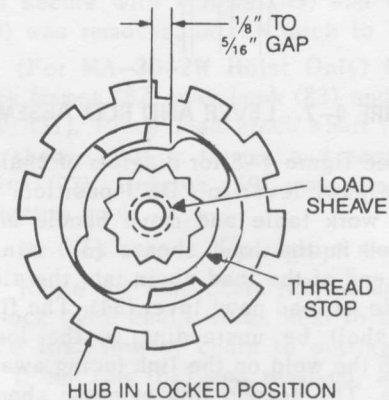
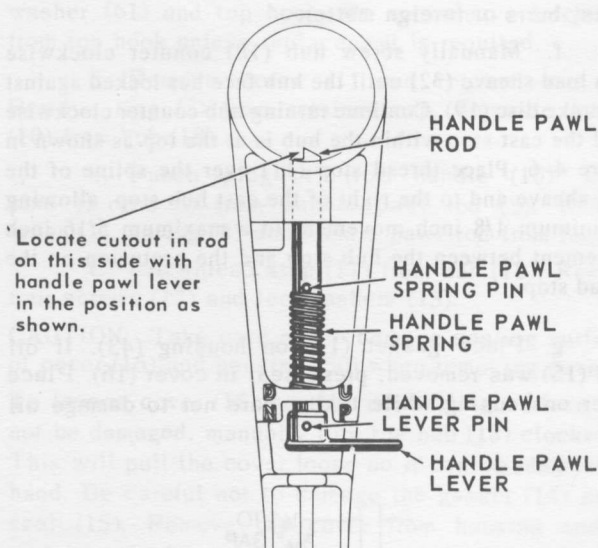

FIGURE 4-6. POSITIONING OF THREAD STOP
FIGURE 4-7. LEVER AND ROD ASSEMBLY
f. Manually screw hub (18) counter clockwise onto load sheave (32) until the hub face has locked against the brake disc (19). Continue turning hub counter clockwise until the cast stop within the hub is at the top as shown in figure 4-6. Place thread stop (11) over the spline of the load sheave and to the right of the cast hub stop, allowing a minimum 1/8 inch movement to a maximum 5/16 inch movement between the hub stop and the protusion on the thread stop.
g. Place gasket (14) on housing (43). If oil seal (15) was removed, press seal in cover (16). Place cover on housing while taking care not to damage oil
h. Insert handle pawl rod (9) into handle (10). Place spring (8) on rod and press pin (5) in rod. Attach lever (7) to rod with pin (6). See figure 4-7 for correct orientation of rod and lever. Replace plug (4) in handle.
i. Install ring (3) on retainer cap (2) and secure handle (10) to hub (18) with retainer cap and screw (1).
j. Assemble top hook (51), hook washer (53) and nut (52) in housing (43). Screw nut on hook until approximately 1/64 inch vertical play (to allow hook to swivel freely) remains. Align pin hole in hook and slot in nut and insert pin (37). If latch (50) was removed, attach latch to top hook.
k. Position swivel frames (48) over bottom hook (49). If latch (50) was removed, attach latch to bottom hook.
g. Manually screw hub (18) counter-clockwise onto pinion shaft (36) until the hub face has locked against the brake disc (19). Continue turning hub counter-clockwise until the cast stop within the hub is at the top as shown in figure 4-6. Place thread stop (11) over the square end of the pinion shaft and to the right of the cast hub stop, allowing a minimum of 1/8 inch movement to a maximum 5/16 inch movement between the hub stop and the protrusion on the thread stop.
h. Place gasket (14) on housing (50). If oil seal (15) was removed, press seal in cover (16). Place cover on housing while taking care not to damage oil seal. Attach cover with four screws (12) and lockwashers (13)
i. Insert handle pawl rod (9) into handle (10). Place spring (8) on rod and press pin (5) in rod. Attach lever (7) to rod with pin (6). See figure 4-7 for correct orientation of rod and lever. Replace plug (4) in handle.
j. Install ring (3) on retainer cap (2). Secure handle (10) to hub (18) with retainer cap and screw (1).
k. Assemble top hook (58), hook washer (61) and nut (60) in housing (50). Screw nut on hook until approximately 1/64 inch vertical play (to allow hook to swivel freely) remains. Align pin hole in hook and slot in nut and insert pin (59). If latch (57) was removed, attach latch to top hook.
l. Position swivel frames (55) over bottom hook (56). If latch (57) was removed, attach latch to bottom hook.